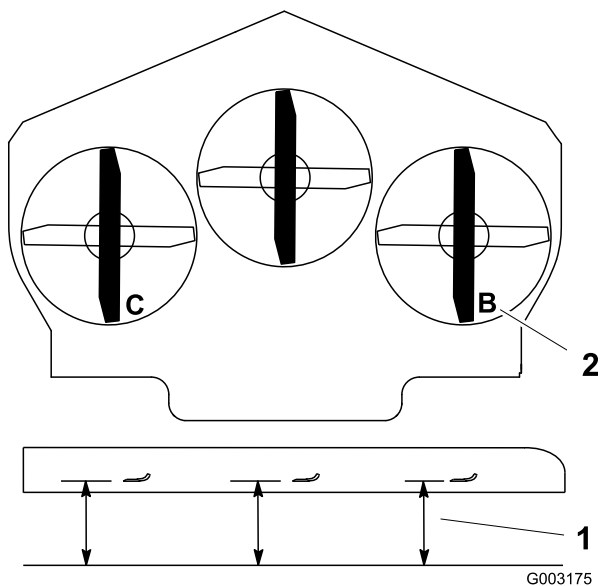

Figure 75
1. Position the right blade front-to-rear (Figure 75).
2. Measure the right blade at the **B** location, from a level surface to the cutting edge of the blade tip (Figure 75).
4. Position the left blade front-to-rear (Figure 75).
5. Measure the left blade at the **C** location (Figure 75), from a level surface to the cutting edge of the blade tip .